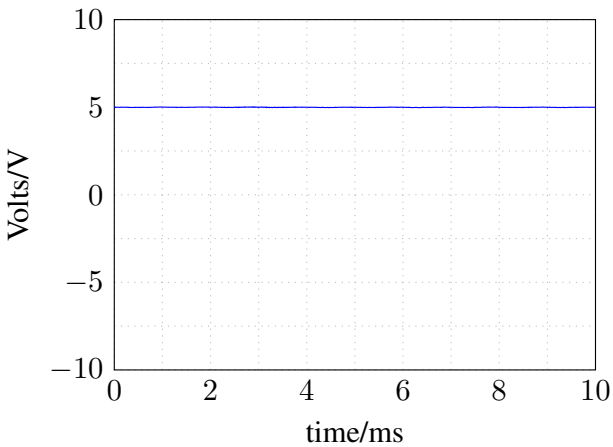

Fig. 38: Oscilloscope in DC mode for 5 V calibration on CV of the channel filter board.
11. Connect the oscilloscope probe to **CV** and adjust TR2 for 5 V (Fig. 38).